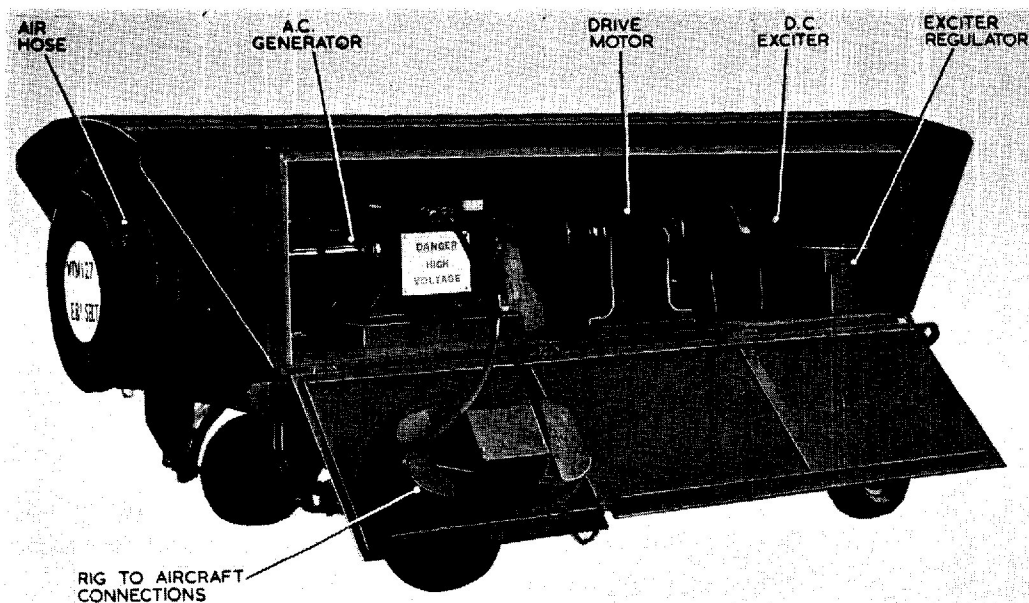
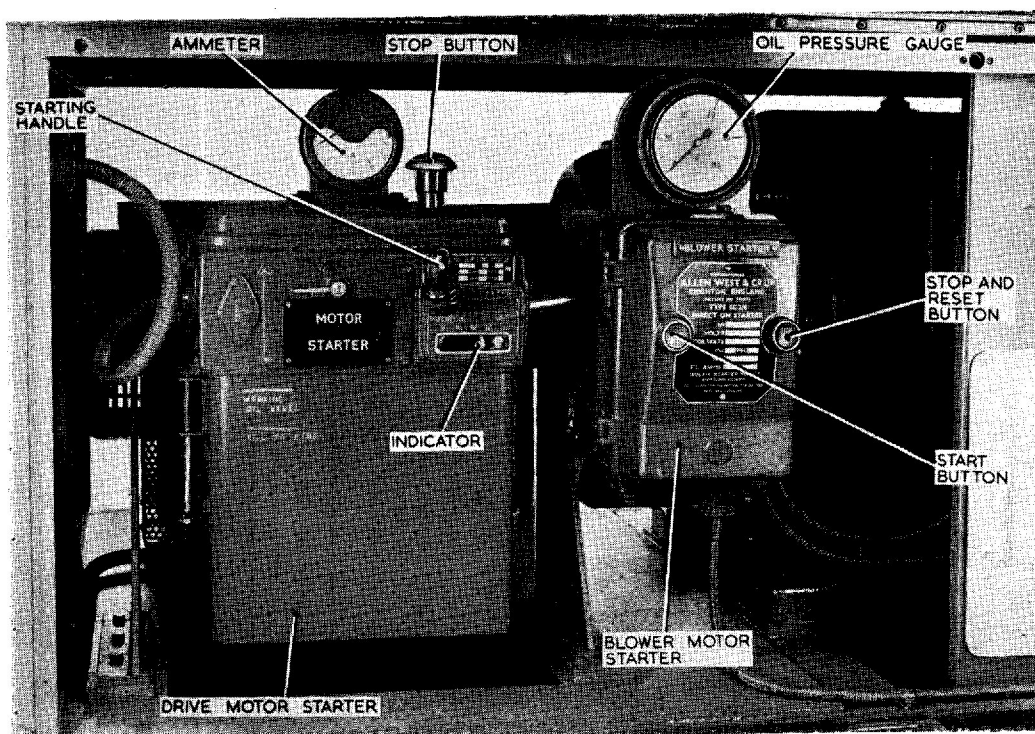
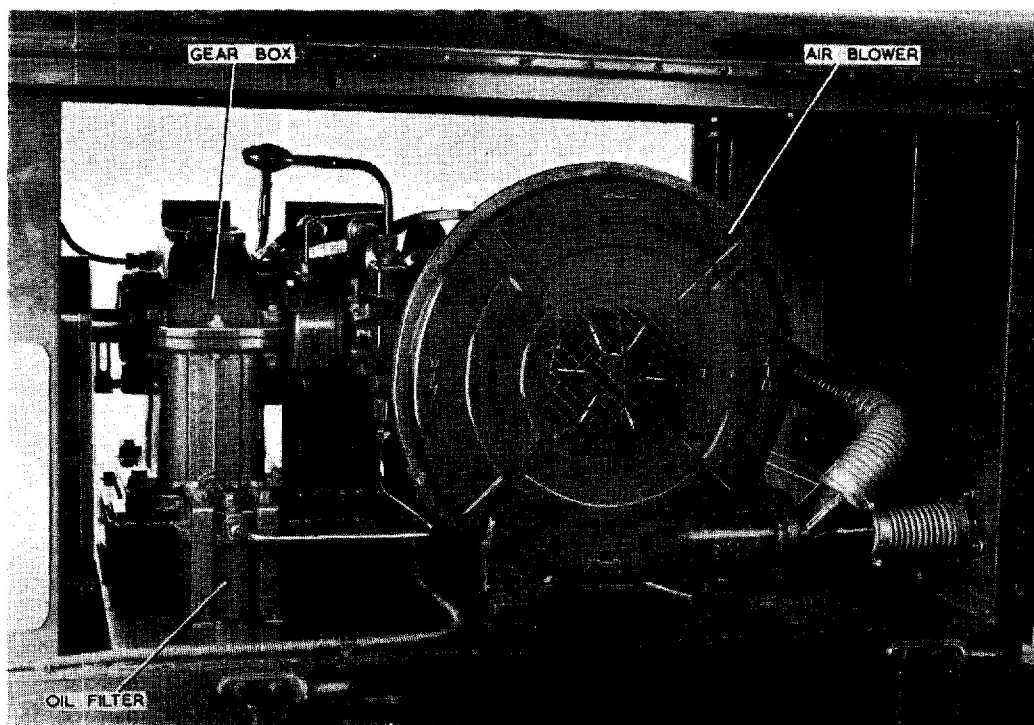

Fig. 2. Test trolley (rear view)
Fig. 3. Motor starters
Fig. 4. Gear box and air blower
4. The 3000 rev/min. synchronous induction drive motor (fig. 2) develops 25 h.p. at unity power factor. The star-connected rotor windings are supplied by the d.c. exciter and revolves in the field of the delta-connected stator windings which are excited from the 415V, 3-phase, 50 c/s mains supply.
6. The drive motor starter (fig. 3) is a combined oil-immersed stator circuit breaker and 3-phase hand-wheel operated rotor starter. The 3-phase rotor windings are connected via sliprings to three stepped resistor units which are connected in star configuration via the starter connections.
10. A Crofts Type MPT3 gearbox (fig. 4) is interposed between the synchronous induction drive motor and the a.c. generator. The gears are of the continuous double helical type and are mounted on shafts supported on roller bearings.
11. Mounted on the gearbox is an oil pump which circulates oil to lubricate the gearbox and the bearings of the a.c. generator. An oil pressure indicator is mounted above the blower motor starter (fig. 3), during running pressure in the system should not fall below 50 lb/in². The lubrication system is equipped with an oil filter which is located alongside the gearbox (fig. 4).
12. Forced air cooling is provided for the a.c. generator on the rig and for the power supply components located in the aircraft. The air blower (fig. 4) which is driven by an induction motor, delivers air to the aircraft components via the air hose (fig. 2.) The end of the air hose must be inserted into the duct at the base of the aircraft fin before operating the test rig in conjunction with the aircraft power supply equipment.
13. An Allen West 3-phase starter Type SC2N (fig. 3) is used for starting the blower motor. Magnetically operated over-current relays equipped with oil dashpots protect the circuit against the effects of high current.